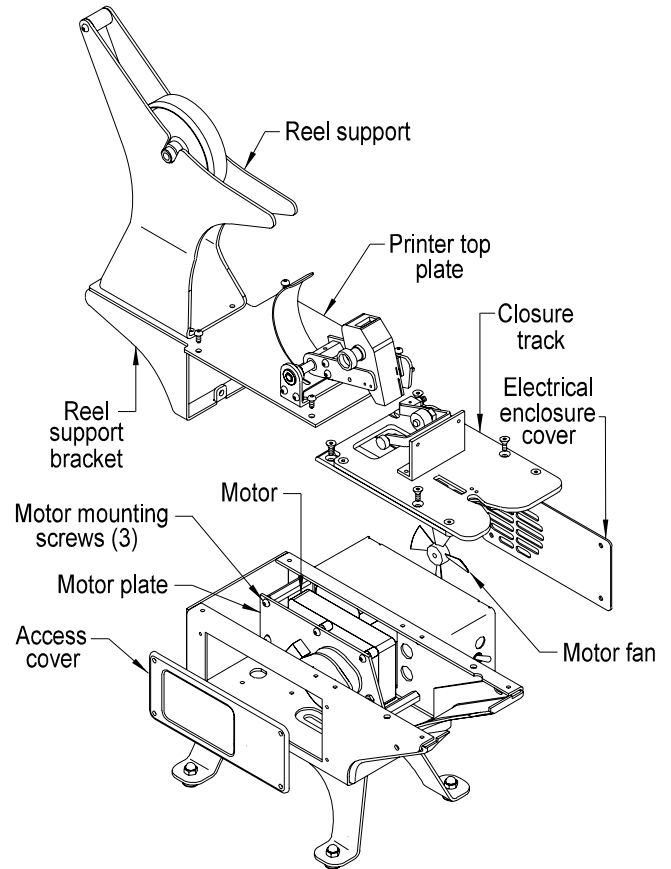

Figure 3.10
I. MOTOR REMOVAL: (Figure 3.10)